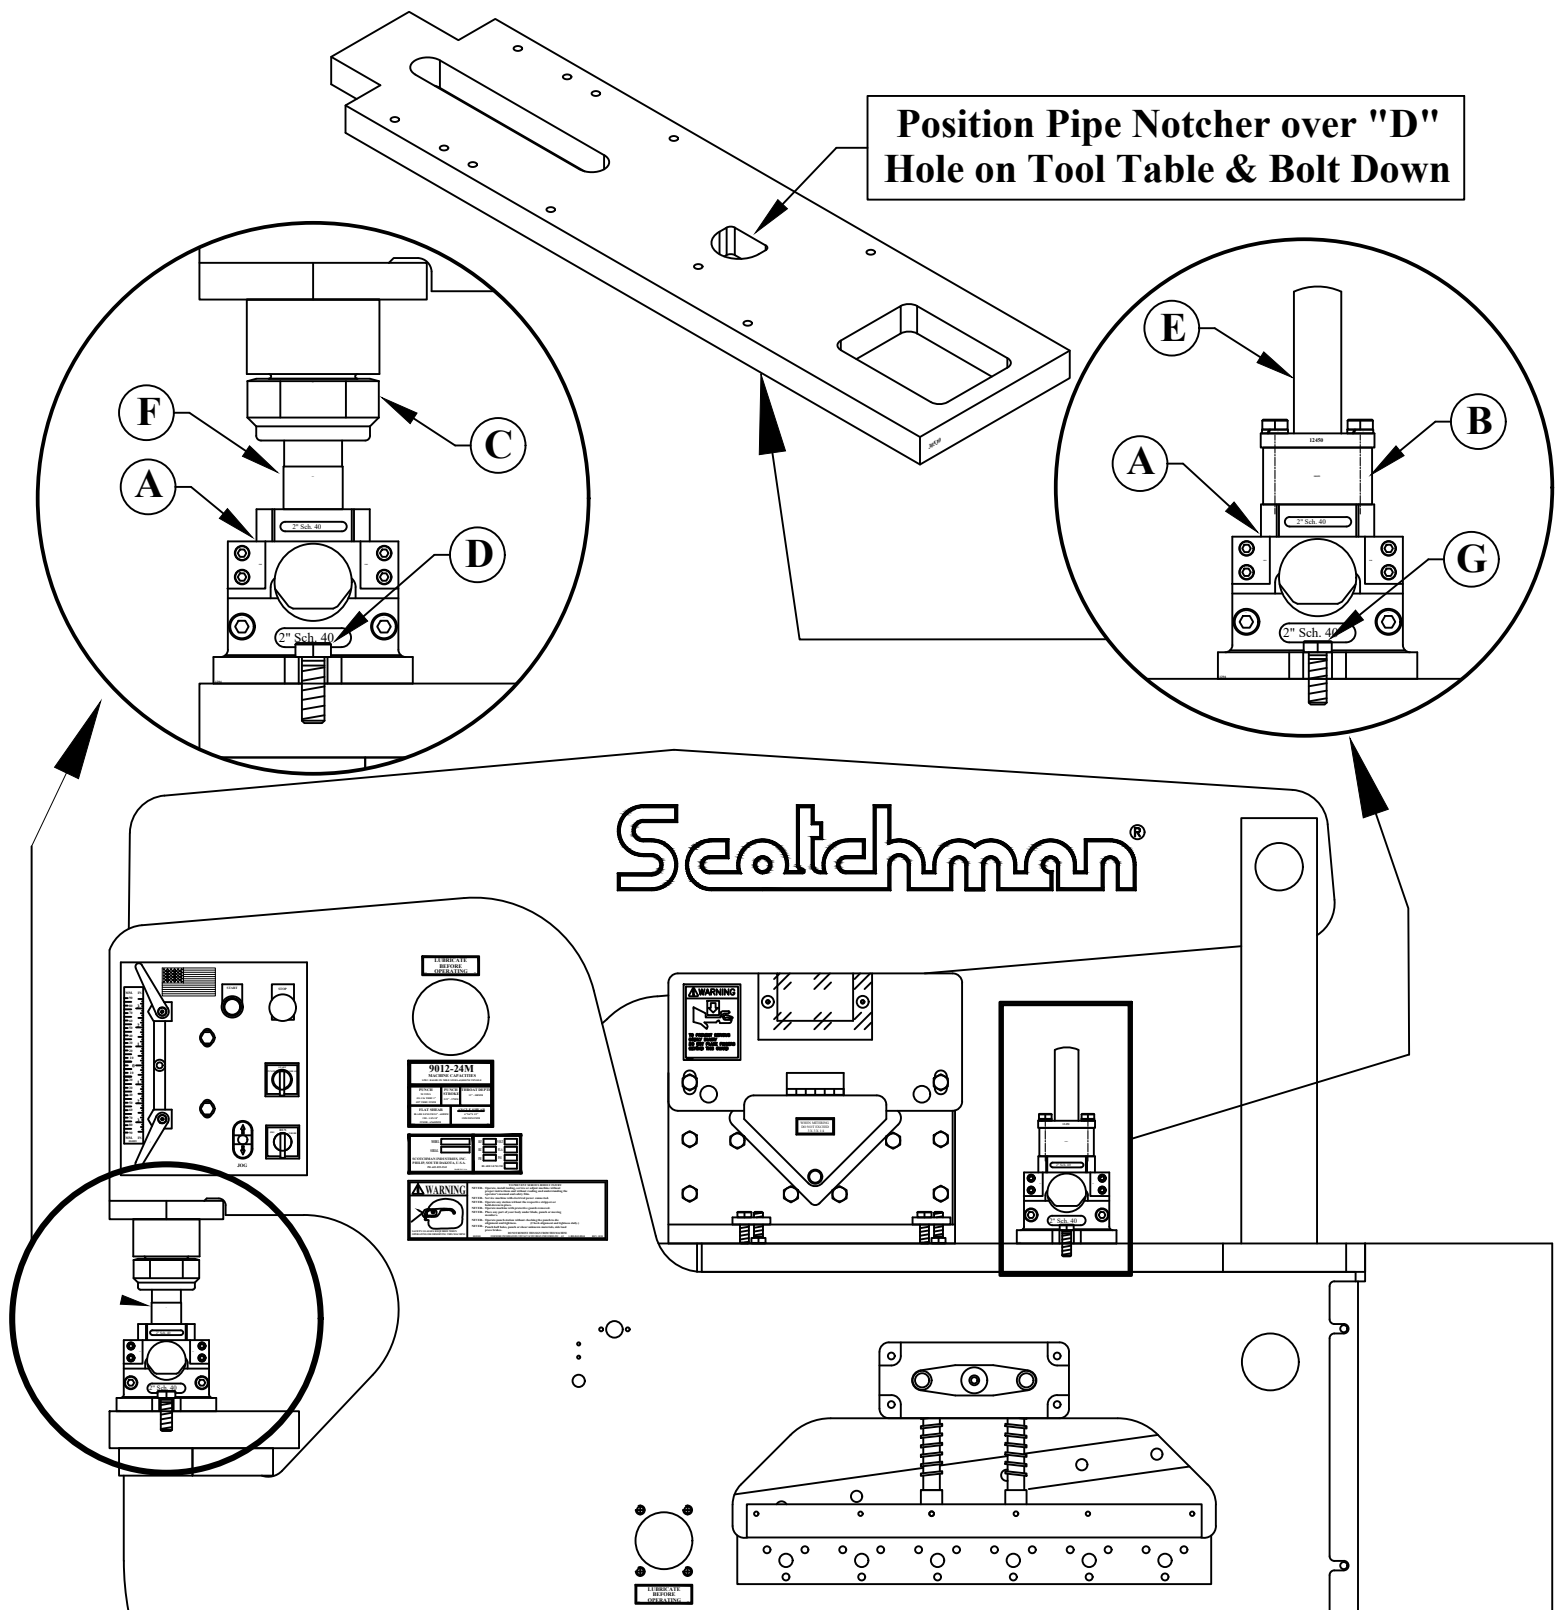

FIGURE 22
SEE FIGURE 22 ON THE FOLLOWING PAGE.
1. Attach the riser (B), Spacer (B1) and the pusher (E) to the tool using the two M10 x 70 bolts and lock washers. See "Tool Table Configuration" on the middle-right in FIGURE 22 on the next page.
2. Align the tool over the "D" shaped slug hole in the tool table (as shown) and bolt it down to the tool table with the M12 bolt (G) provided.